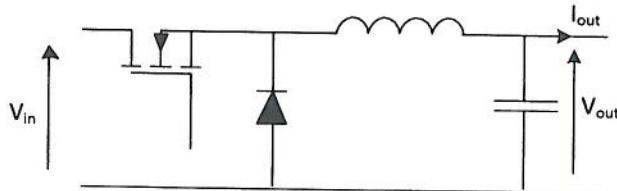

Figure Q1.1 Buck converter
1. This question concerns the design of a buck SMPS as shown in Figure Q1.1. Selected data sheet information of the components used is listed below. The supply must be able to output 5 A at 3 V from a 20 V input and is designed to operate in continuous conduction mode.